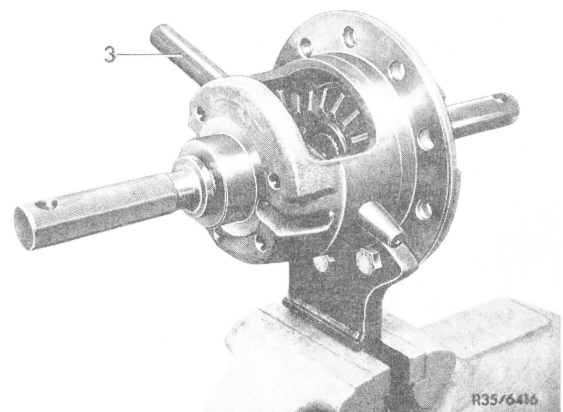

Fig. 10
- 15** Insert assembly mandrel instead of differential pin for locating the differential pinions and spherical washers (Fig. 10).